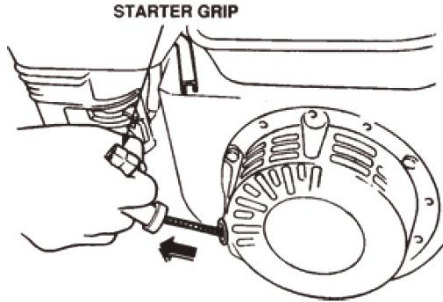

FIG.10
9.6 Grasp the starter grip (FIG. 10) and slowly pull it out. The resistance